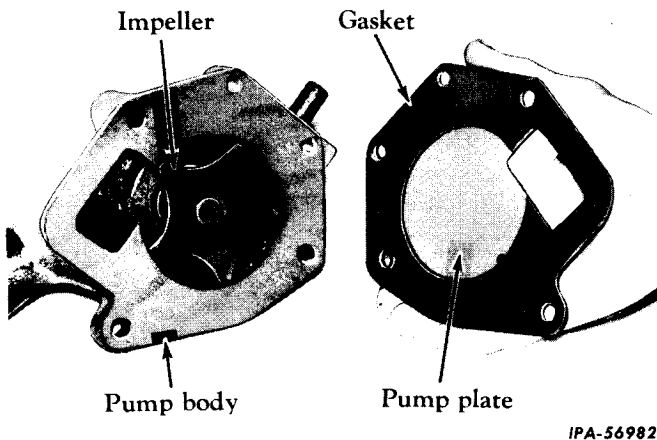

Fig. 3 - Removing the Water Pump Plate.
1. Remove the screws from the water pump plate. Remove the plate (10) and gasket (11, Fig. 3).